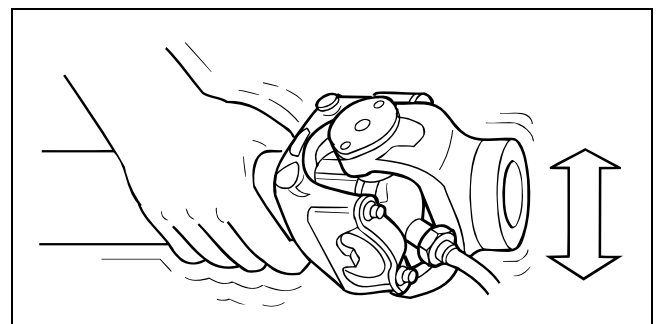

Figure 7.3
- Move the assembly UP-AND-DOWN or SIDE-TO-SIDE while you apply grease gun pressure. Figure 7.3.